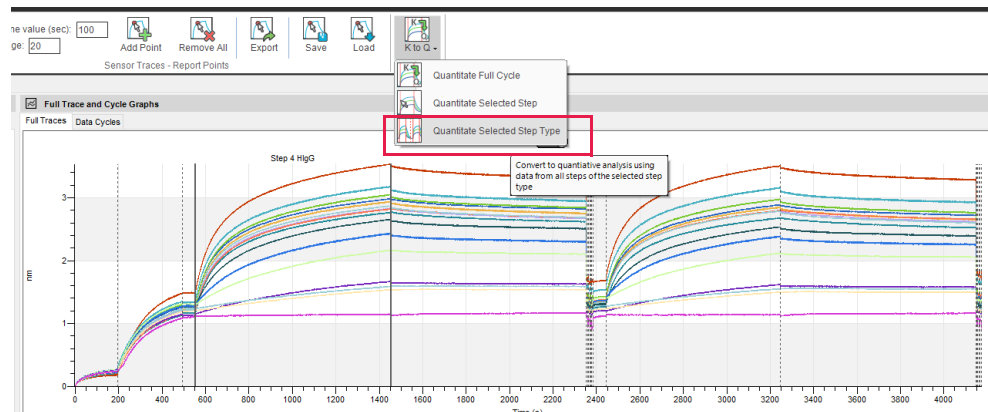

Figure 4-77: Kinetic Dataset with Regeneration, Select Quantitate Step Type
- In kinetic datasets where regeneration was performed, often the same step in each regeneration cycle needs to be moved to quantitation mode as shown in Figure 4-77. In this case, select **Quantitate Selected Step Type**